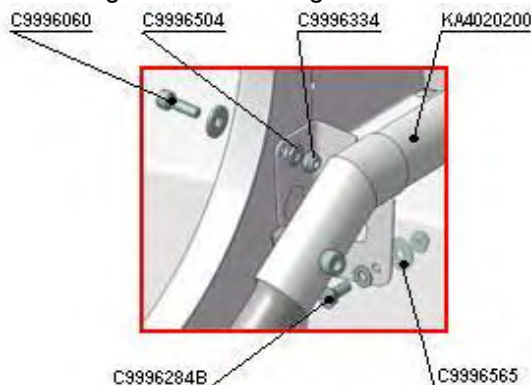

Fig. 10
1. To dismount the bracket KA4020200 (Upper mounting unit), Fig. 10 run items 1) through 7) of the Paragraph 4.2.2.8.3 for the right and left main gear struts.